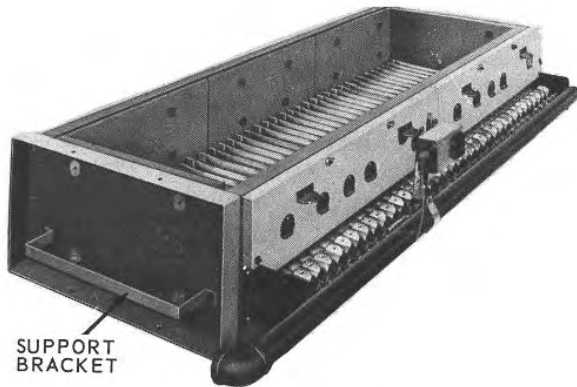

FIG. 2
- a. 6 section thru 14 section boilers require single base assembly, see Fig. 2.